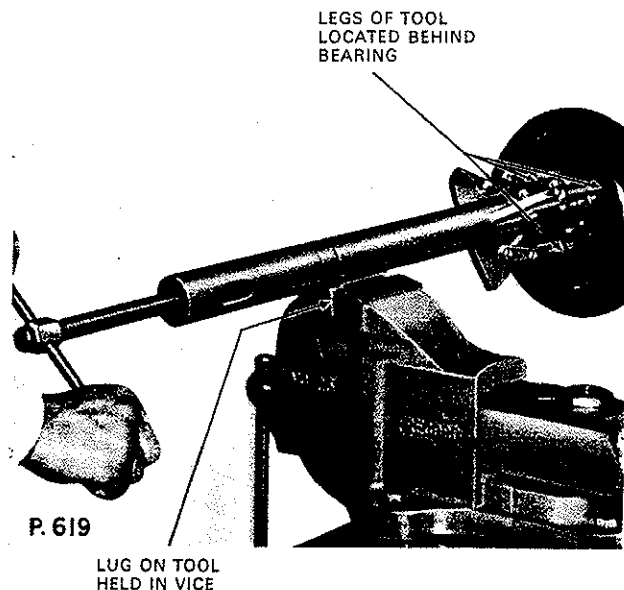

Fig. G.1. Removing the rear hub bearing from the axle shaft, using Churchill Tool R.G.330A
2. Release the turned-up side of the tab washer (38).
3. Remove nut (39) (right-hand threaded in each case).
4. Draw off rear hub bearing (36) using the Churchill Tool No. R.G.330A. (See Figs. G.1 and G.12.)
5. Remove brake back plate, oil seal (40), support plate (41) and oil catcher (42) from shaft. Note the joints (43) on each side of support plate (41).